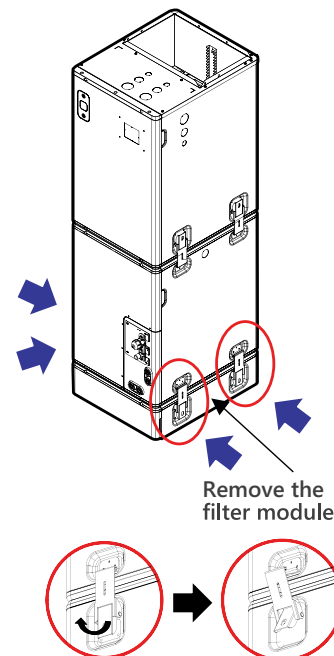

Fig. 1-3: Filter Module Removal
1. Unlock the 4 latches and remove the filter module. See Fig. 1-3.